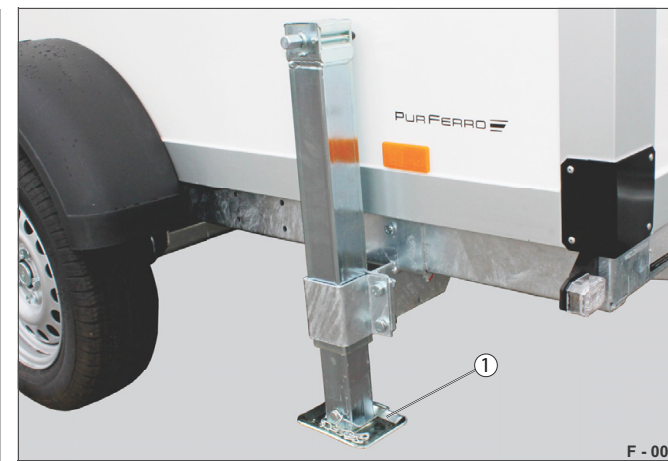

Fig. 31 Position for driving
- Wind up the adjustable support (Fig. 31 /1) to the full extent.